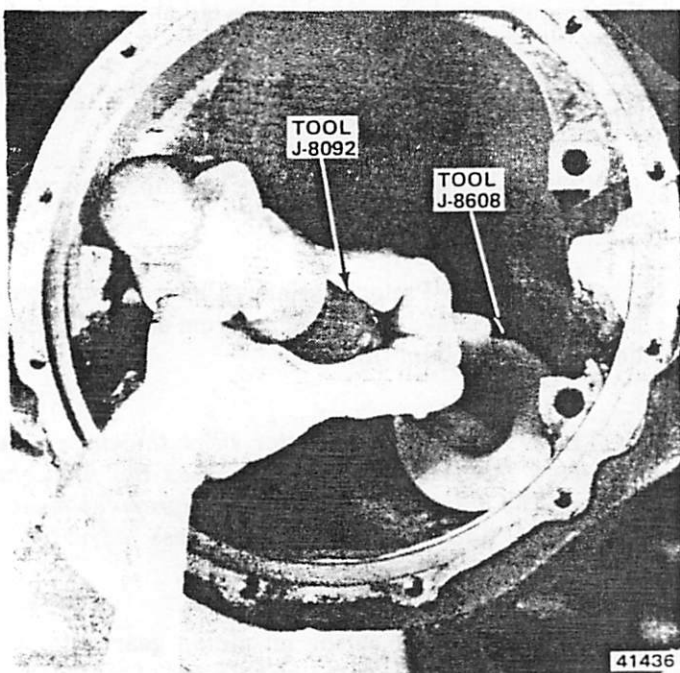

Fig. 2F-37 Pinion Rear Bearing Cup Installation
(5) Clean pinion bearing bores in axle housing thoroughly. This is important to obtaining correct pinion gear depth adjustment.
(6) Install starter pinion depth shim in housing rear bearing cup bore. Be sure shim is centered in bearing cup bore.
(7) Install rear bearing cup using Tools J-8092 and J-8608 (fig. 2F-37).
(8) Install front bearing cup using Tools J-8092 and J-8611-01.
(9) Install pinion gear in rear bearing cup.
(10) Install front bearing, rear universal joint yoke, and original pinion nut on pinion gear. **Tighten pinion nut only enough to remove bearing end play.**
(11) Note pinion depth variance marked on pinion gear. If number is preceded by a plus (+) sign, add that amount (in thousands) to standard setting for axle model being overhauled. If number is preceded by a minus (-) sign, subtract that amount (in thousandths) from standard setting. Result of this addition or subtraction is **desired pinion depth**. Record this figure for future reference.
(12) Assemble Arbor Tool J-5223-4 and Discs J-5223-23 and install assembled tools in differential bearing cup bores (fig. 2F-38). Be sure discs are completely seated in bearing cup bores.
(13) Install bearing caps over discs and install bearing cap bolts (fig. 2F-38). Tighten bearing cap bolts securely, but not to specified torque.
(14) Position Gauge Block J-5223-20 on end face of pinion gear with anvil end of gauge block seated on gear and gauge plunger underneath Arbor Tool J-5223-4 (fig. 2F-39).
(15) Assemble and mount Clamp J-5223-14 and Bolt J-5223-24 on axle housing (fig. 2F-38). Use axle housing cover bolt to attach clamp to housing.
(16) Extend clamp bolt until it presses against gauge block with enough force to prevent gauge block from moving.
(17) Loosen gauge block thumbscrew to release gauge block plunger. When plunger contacts arbor tool, tighten thumbscrew to lock plunger in position. Do not disturb plunger position.
(18) Remove clamp and bolt assembly from axle housing.
(19) Remove gauge block and measure distance from end of anvil to end of plunger using a 2 to 3 inch (5 to 8 cm) micrometer (fig. 2F-39). This dimension represents the **measured pinion depth**. Record this dimension for assembly reference.
(20) Remove bearing caps and remove arbor tool and discs from axle housing.
(21) Remove pinion gear, rear bearing cup, and pinion depth shim from axle housing.
(22) Measure thickness of depth shim used in step (10). Add this dimension to measured pinion depth obtained in step (8). From this total, subtract desired pinion depth. Result represents correct shim thickness required.
(23) Following examples will illustrate procedure for determining correct shim thickness.